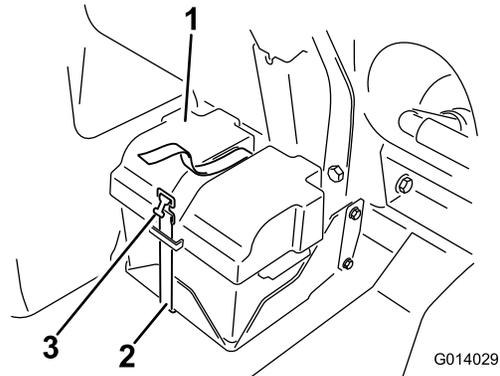

Figure 91
2. Remove the battery cover and disconnect the negative (black) ground cable from the battery post (Figure 91).
4. Install the battery cover and secure it with the strap that you removed previously (Figure 91).